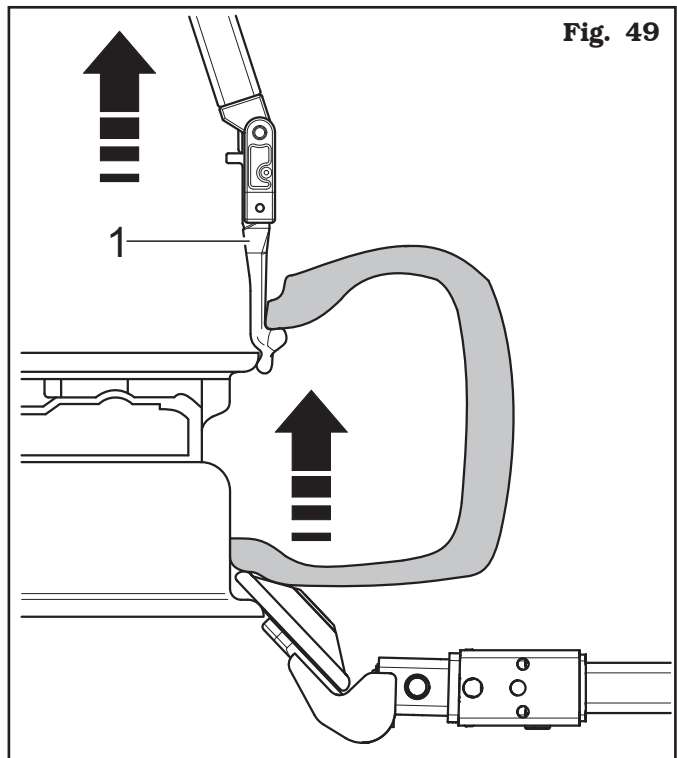

Fig. 49
6. lift the toolhead (see **Fig. 49 ref. 1**) keeping it coupled to the upper bead of the tyre with the bead breaker roller in lower position;